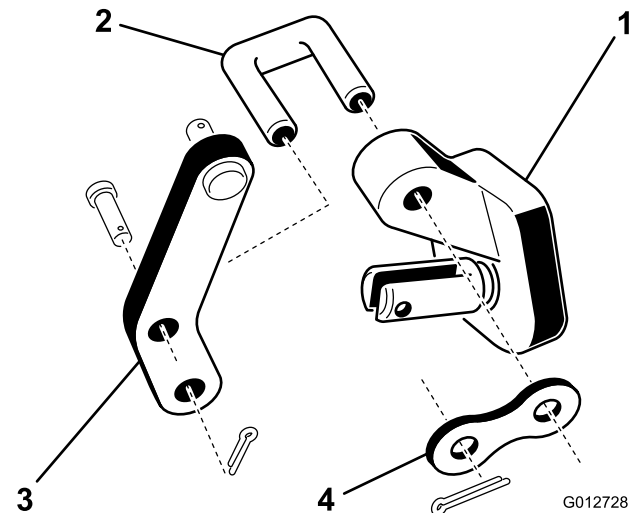

Figure 14
- Mount the valve control lever to the valve spool bracket with a link pin and connecting link as shown in Figure 14.
- Mount the bottom of the control valve lever to the valve spool with a clevis pin and cotter pin as shown in Figure 14. Repeat the procedure on the other valve section. Coat the pins with #2 grease.